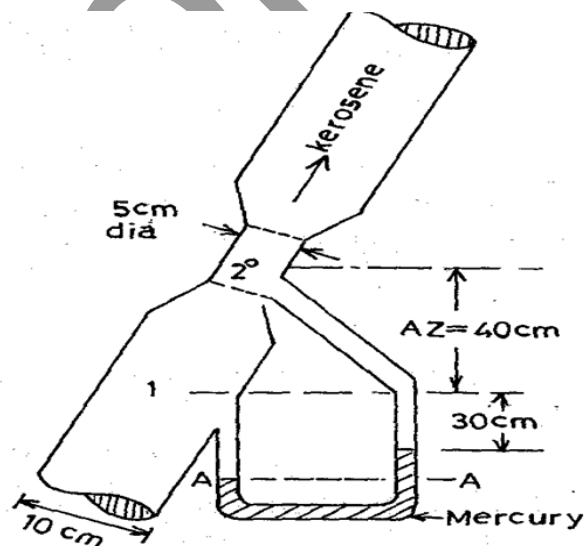

Fig. 5
7) Estimate the discharge of kerosene (sp gravity = 0.8) through the given venturimeter shown in Fig. 5. specific gravity of mercury (Hg) is 13.55.